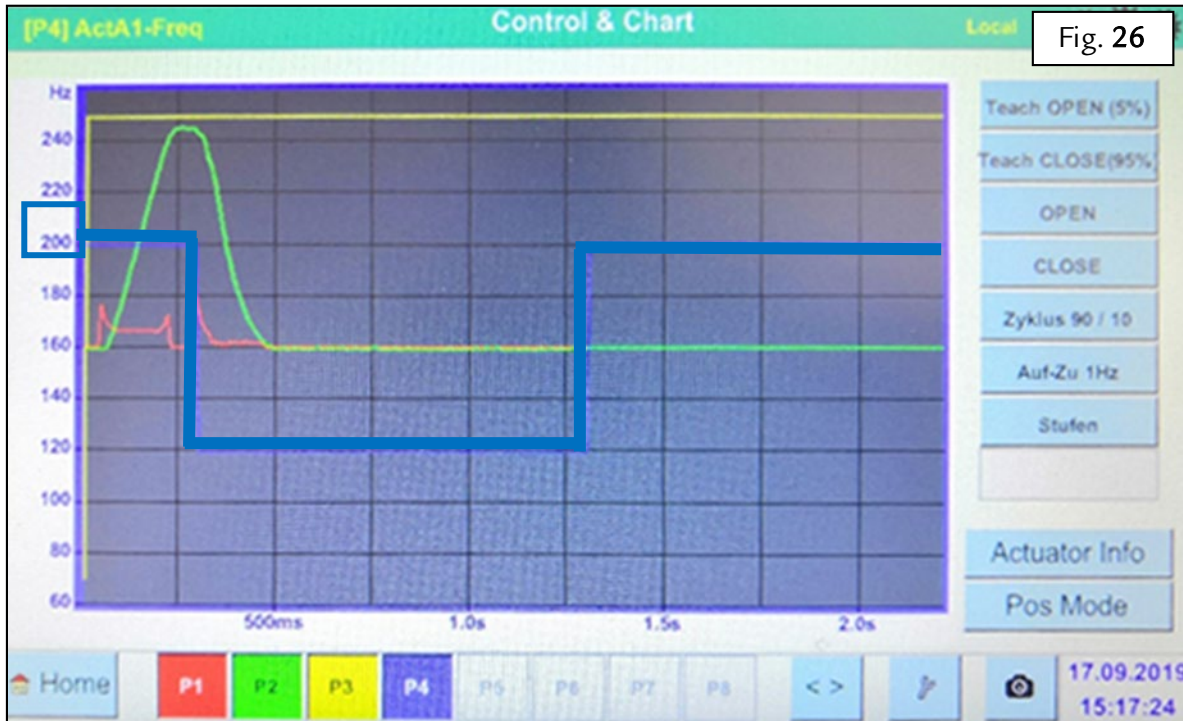

Fig. 26
- A graph is displayed on the screen once the cycle is complete. The cycle may be considered to have been completed correctly if the **BLUE** line ends at a frequency of **200 Hz** – Fig.26